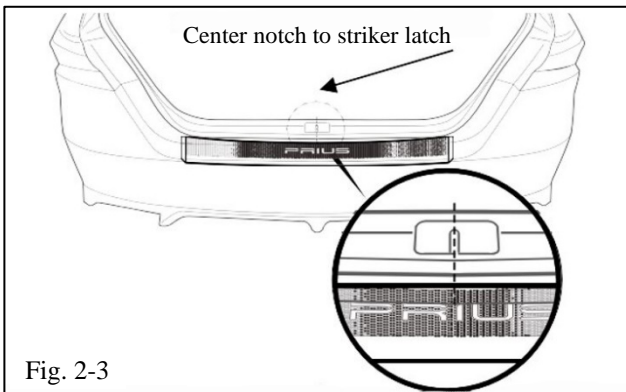

Fig. 2-3
- (c) Align the center notch directly below the striker latch opening and the leading edge of the pre-mask along the vertical surface of the bumper (Fig. 2-3).